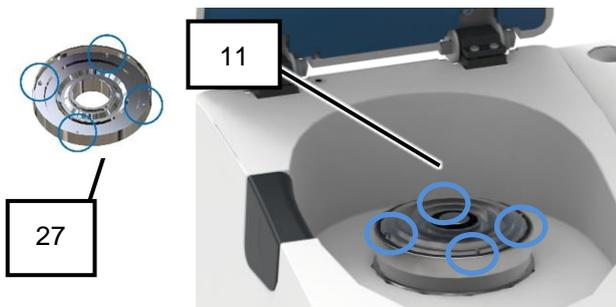

Fig. 20: Interior with rotor shaft
4. Place the labyrinth disc (27) around the rotor shaft (11) (Fig. 20).
5. Ensure that the anti-rotation device is correctly engaged (Fig. 20).
6. Place the cassette (26) (without lid) on the labyrinth disc (27).